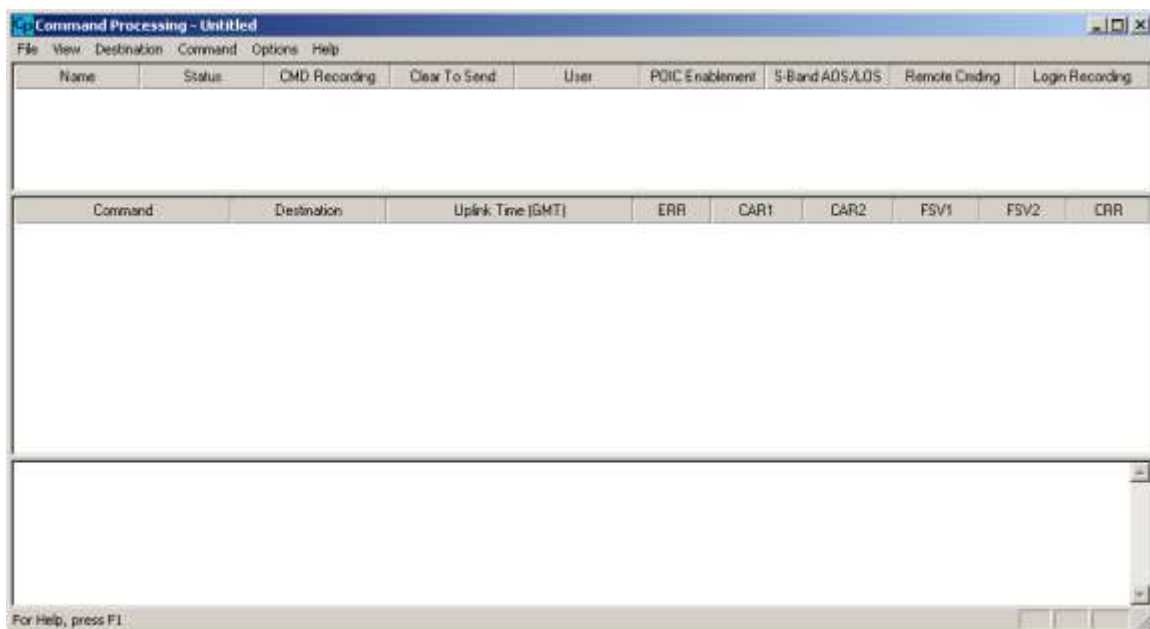

Figure 6 Command Processing with Login Recording Column
4. Push the **OK** button to close the dialog. Now take a look at the Command Processing main window. As you can see in Figure 6 the Login Recording Column has now been added. You can resize your window horizontally to make it a little wider if some of the column names are not completely visible.